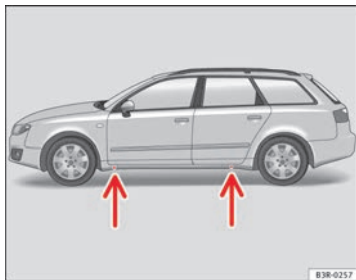

Fig. 194 Changing the wheel: Jack position points
- Position the vehicle jack under the door sill at the **jacking point** closest to the wheel being changed ⇒ **fig. 194 -arrows-**.
Recesses at the front and rear of the door sills mark the jacking points ⇒ **fig. 194 -arrows-**. There is only *one* jacking point for each wheel. Do not fit the jack anywhere else.